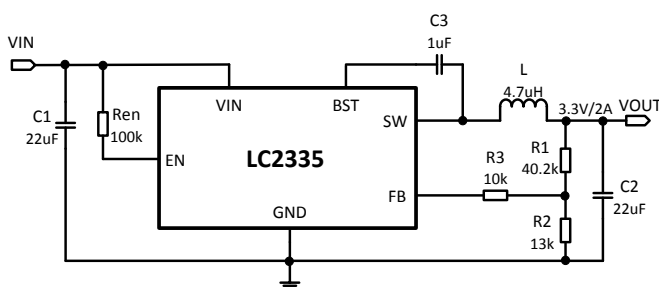

Figure 1.
2) The resistance R3 in Figure 1 makes the loop more stable. If it isn't used, the resistance R1, R2 should be adjusted(See Figure2.). The value of R1 is recommended to be about 300kΩ.